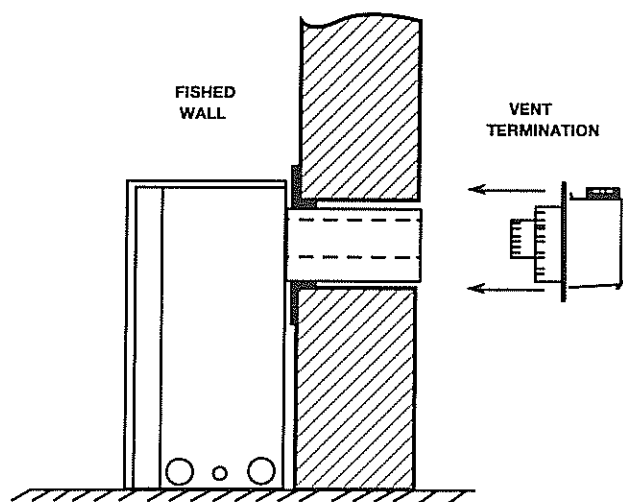

Fig. 20
Measure the total wall thickness. Mark pipes and cut to length. It is very important that the two pipes are flush with the outside wall once the fireplace is in its final location. Fig. 20.
Slip 4" and 7" pipes onto respective flue collars. Make sure to fix to the fireplace collar the 4" pipe with three (3) screws before fixing the 7" pipe on the 7" collar. Both pipes must be on a level plane. Fig. 20.
Guide the vent termination 4" collar into the 4" pipe then the 7" collar into the 7" pipe. Do not force the venting into position. If the pipes do not line up with the termination collars, disassemble elbows or pipes and reattach to the fireplace collar. (Fig. 20)